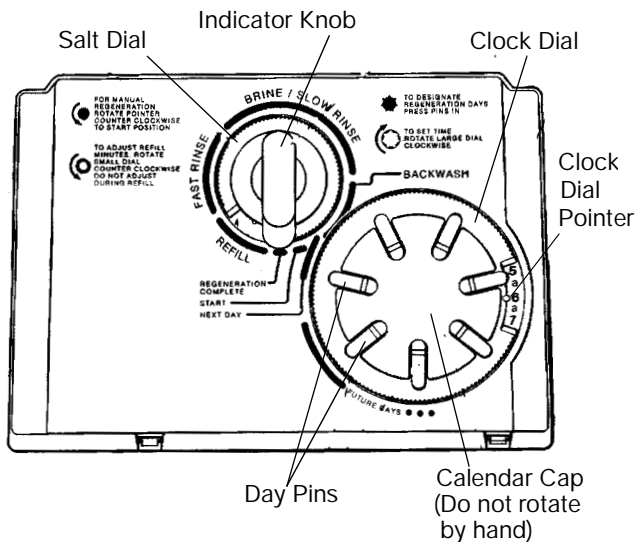

Figure 11
1. **Set days of regeneration** (Figure 11).
With the Indicator Knob in the REGENERATION COMPLETE position (Figure 11), rotate the Salt Dial COUNTERCLOCKWISE at least one full turn to cancel out the previous setting. A light clicking will be replaced by a heavier clicking when the previous setting is cancelled. Then, rotate the Salt Dial to the proper salt setting.